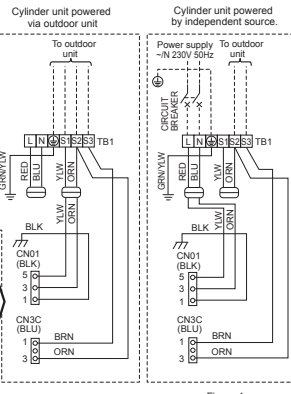

Figure 1
- This diagram shows the wiring of indoor unit and outdoor unit connecting wires (specification of 230V), adopting superimposed system of power and signal. When work to supply power separately to indoor unit and outdoor unit was applied, refer to Figure 1.